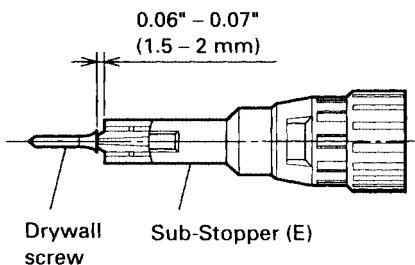

Fig. 5
(2) For drywall screws (Fig. 5)